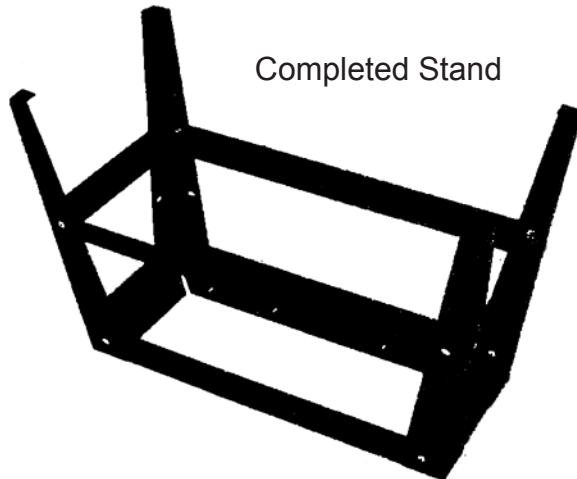

Fig. 2.
- d. Repeat this assembly process with the other three legs, using the supplied hardware, until the Stand (263) assembly is complete. (See Fig. 2.)